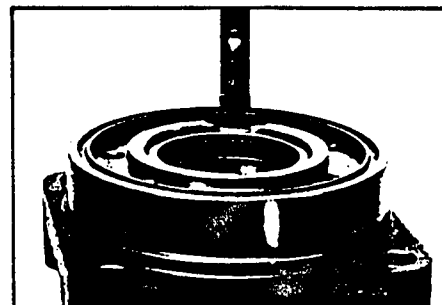

Figure 35
CAUTION: If the bearing mandrel specified on page 7 is not available and alternate methods are used to press in bearing/bushing (13) and (19) the bearing/bushing depths specified must be achieved to insure adequate bearing support and correct relationship to adjacent components when assembled. SEE FIGURE 35.